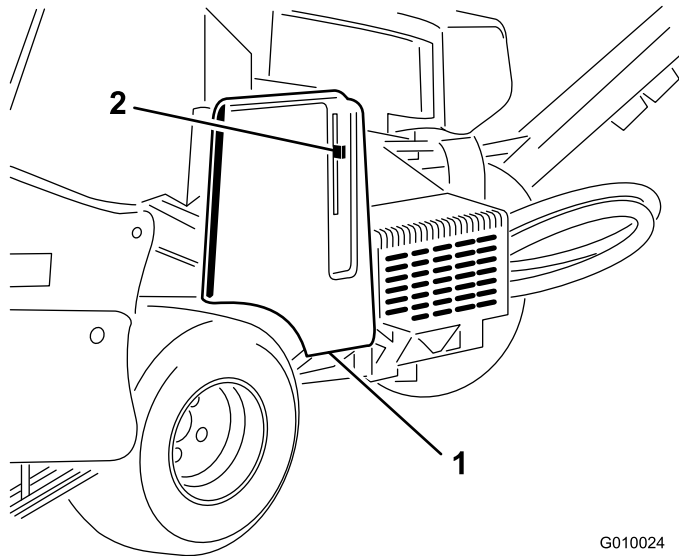

Figure 17
2. Unlatch and remove the belt cover (Figure 17).